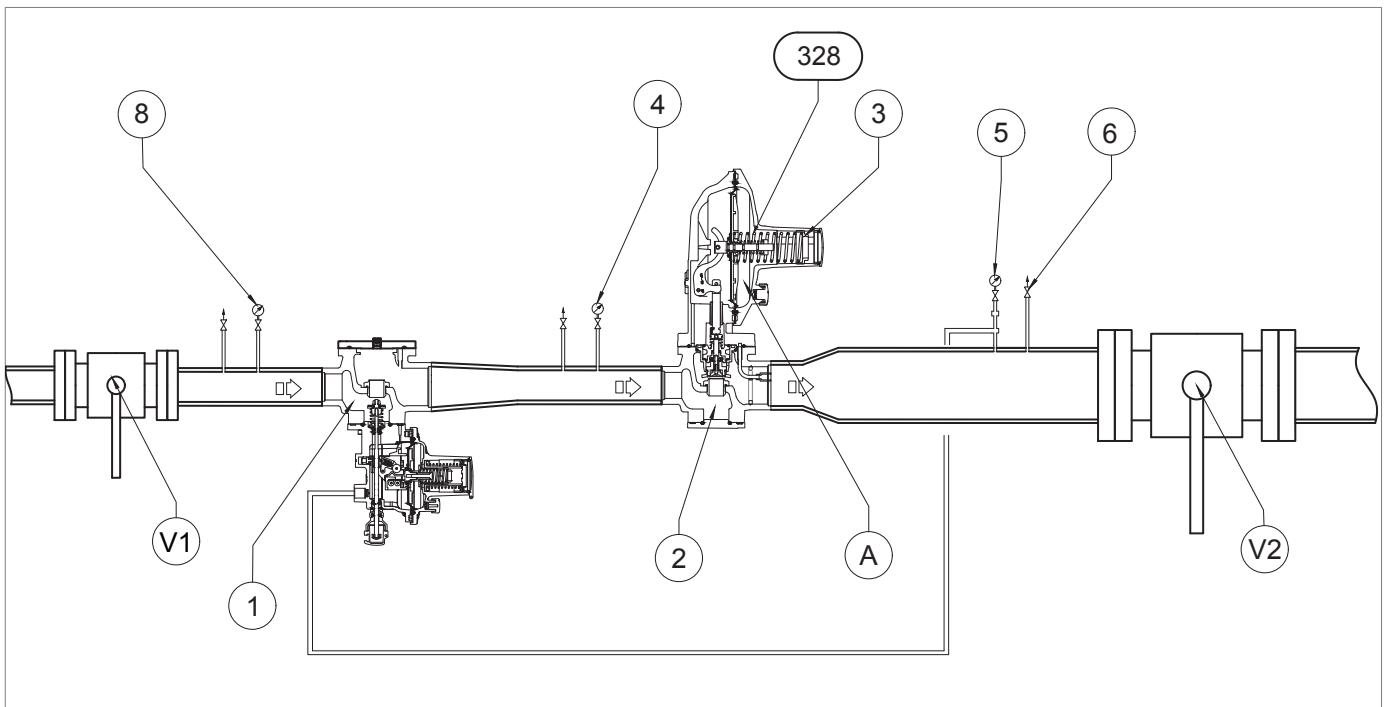
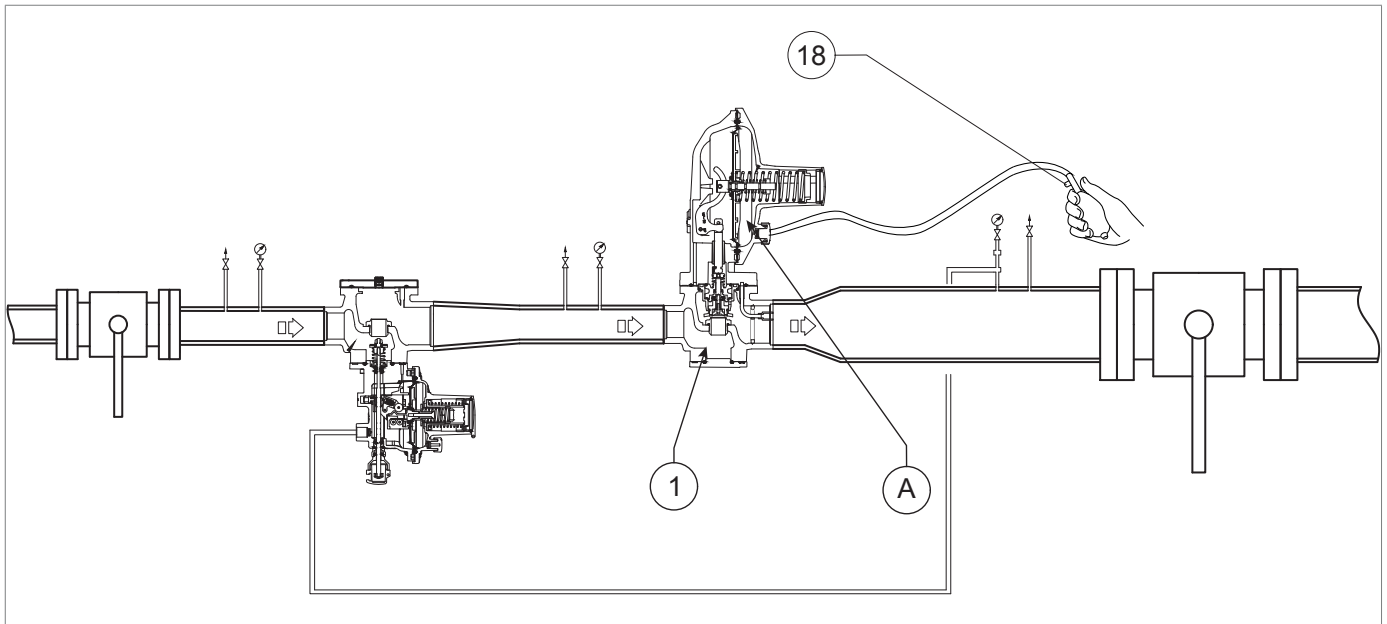

Fig. 1.15. Commissioning of the DILOCK slam-shut valve installed upstream of the regulator
Fig. 1.17. External source pressurization DILOCK installed upstream of the regulator
1	<p>Increase the downstream pressure (Pd) to the slam-shut valve's tripping value, to check its correct setting, using an external pressure source (Fig. 1.17).</p> <div style="border: 1px solid blue; padding: 5px;"> <p>! NOTICE!</p> <p>Check the pressure with reference to the pressure gauge (Fig. 1.15, ref. 5) downstream of the regulator.</p> <p>If the slam-shut valve:</p> <ul style="list-style-type: none"> • trips before the expected pressure value: screw in (clockwise) the adjustment ring nut (13) so as to further compress the spring (11); • does not trip at the expected pressure value: unscrew (anti-clockwise) the adjustment ring nut (13) so as to relieve the spring (11). </div>
2	Decrease the pressure of the downstream section by opening the vent (Fig. 1.15, ref. 6) to bring it up to the calibration value of the regulator.
3	Close the air vent valve (Fig. 1.15, ref. 6).
1	Partially open the bleed cock (Fig. 1.15, ref. 6) and keep it open for the next steps.
2	<p>Decrease the downstream pressure to the minimum required slam-shut valve pressure.</p> <div style="border: 1px solid blue; padding: 5px;"> <p>! NOTICE!</p> <p>Check the pressure referring to the downstream pressure gauge (Fig. 1.15, ref. 5).</p> <p>If the slam-shut valve:</p> <ul style="list-style-type: none"> • trips before the expected pressure value: unscrew (anti-clockwise) the adjustment ring nut (15) so as to relieve the spring (17); • does not trip before the expected pressure value, screw in (clockwise) the adjustment ring nut (15) so as to further compress the spring (17). </div>
3	Close the bleed cock (Fig. 1.15, ref. 6).
5	To reset the slam-shut valve, increase the downstream pressure (Pd) of the line, using an external pressure source (Fig. 1.17).